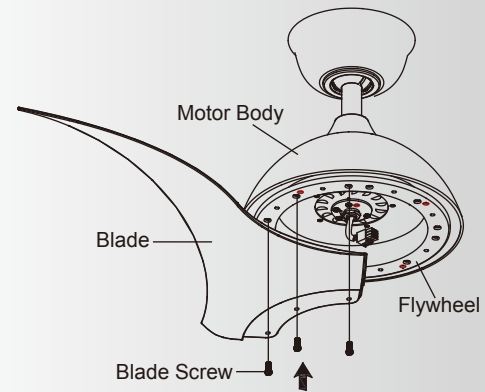

Fig. 18
Step 1. Align the middle hole of one blade with the red dot label on the flywheel of motor body. Attach the blade to the flywheel and tighten with blade screws. Repeat the same steps for the remaining blades. (Fig. 18)